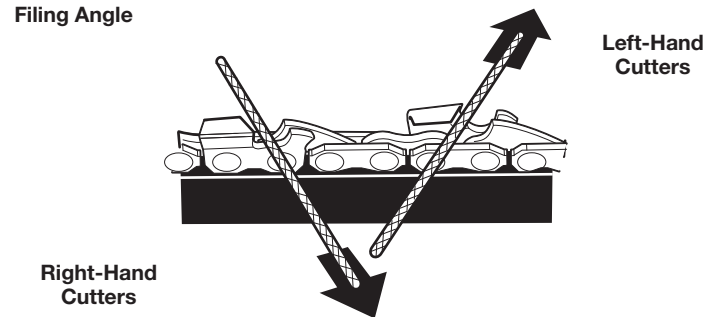

Fig. 34
- File toward the front corner of the cutter (Fig. 34). Lift the file away from the cutter at the end of the forward stroke. Only file on the forward stroke.
- File all the left-hand cutters in one direction (Fig. 34). Then move to the other side of the saw chain and file all of the right-hand cutters in the opposite direction (Fig. 34).